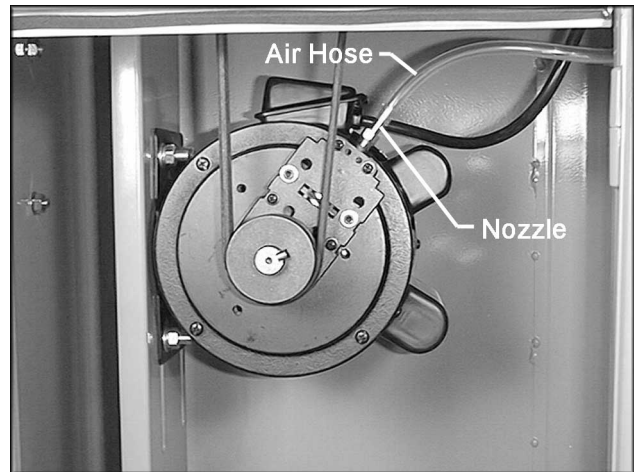

Fig. 10
20. The air hose, which is already connected to the saw body, should be inserted through the hole in the stand and connected to the nozzle of the air regulator (Fig. 10). Use a lighter or match to briefly heat the end of the hose so that it will slip over the nozzle. As it cools, it will form a tight seal over the nozzle.